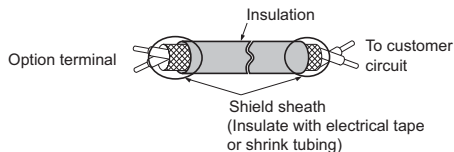

Figure 6 Preparing Ends of Shielded Cable
2. There are two screw holes on the unit for use as ground terminals (J). When connecting three options, two ground wires will need to share the same unit ground terminal.
- Prepare and connect the wire ends as shown in **Figure 6** and **Figure 7**. Refer to **Wire Gauges and Tightening Torques on page 19** to confirm that the proper tightening torque is applied to each terminal. Take particular precaution to ensure that each wire is properly connected and wire insulation is not accidentally pinched into electrical terminals.